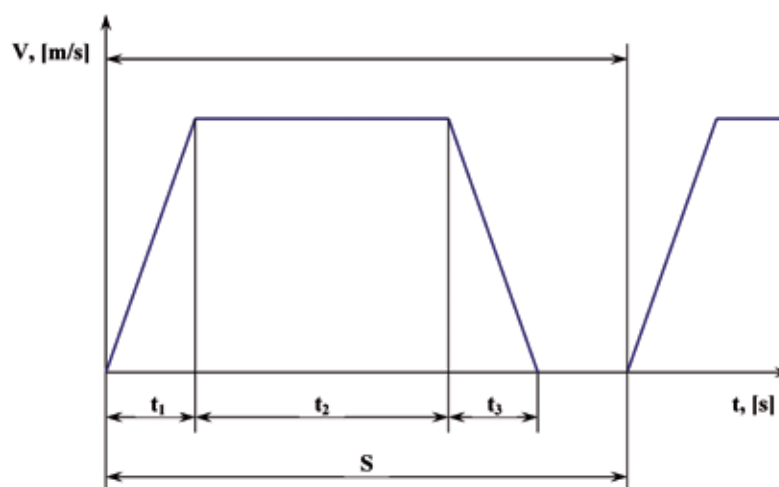

Figure 2.5 Velocity/time diagram
- > Velocity diagram (Figure 2.5)